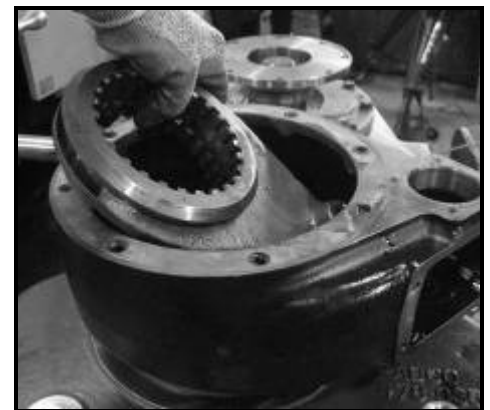

Figure 17
8. Remove the shift shaft. It may be necessary to carefully pry open slightly the slot in the shift fork to free the shaft. Lift out the shift collar and the shift fork. See **Figure 17**.